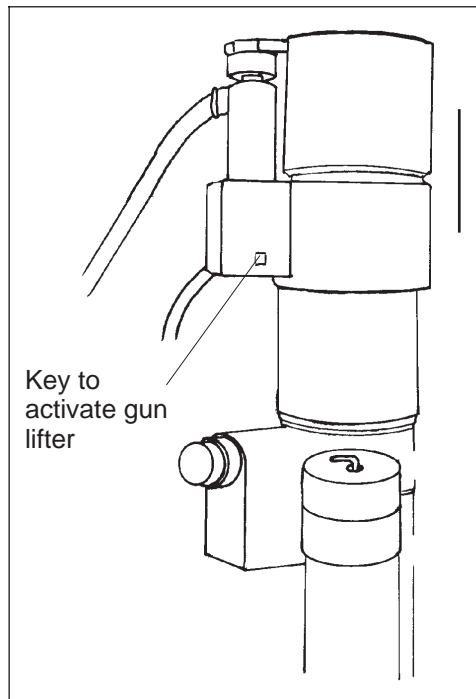
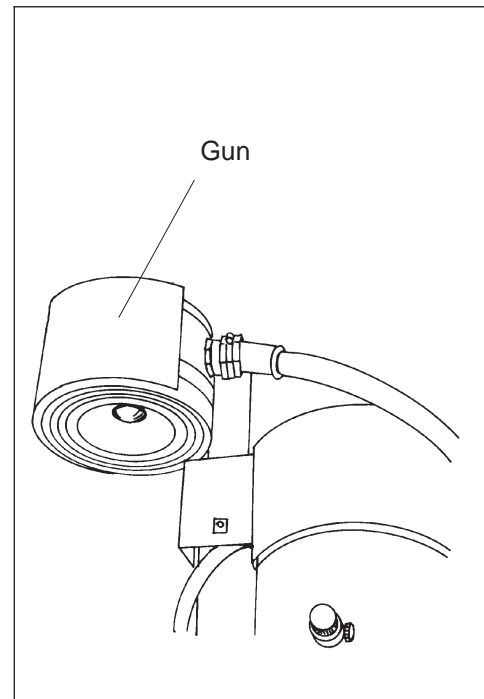

Fig. 6-1: Lifting gun
Fig. 6-2: Swinging away gun
- After ventilation (approx. 60s) lift gun by pushing the key on gun lifter (Fig. 6-1) and swing gun away (Fig. 6-2).